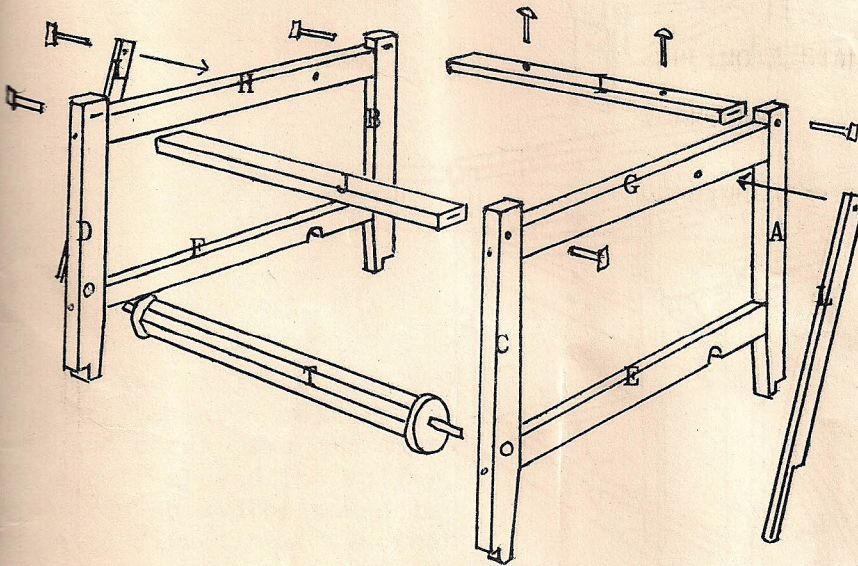

Fig. 101
1. Take the two sides of the loom (already assembled), place them on the floor vertically, but upside down (fig. 101) and insert the warp beam (hexagonal) into the holes in C and D, so that the metal drum on one end of the beam fits inside the steel wire spiral. It may be necessary to disconnect the brake spring before doing it.
10. Place the treadles with their base on the lower front cross-piece I. The two bolts inserted there previously (fig. 101) will fit in the holes in the base. Do not use washers.